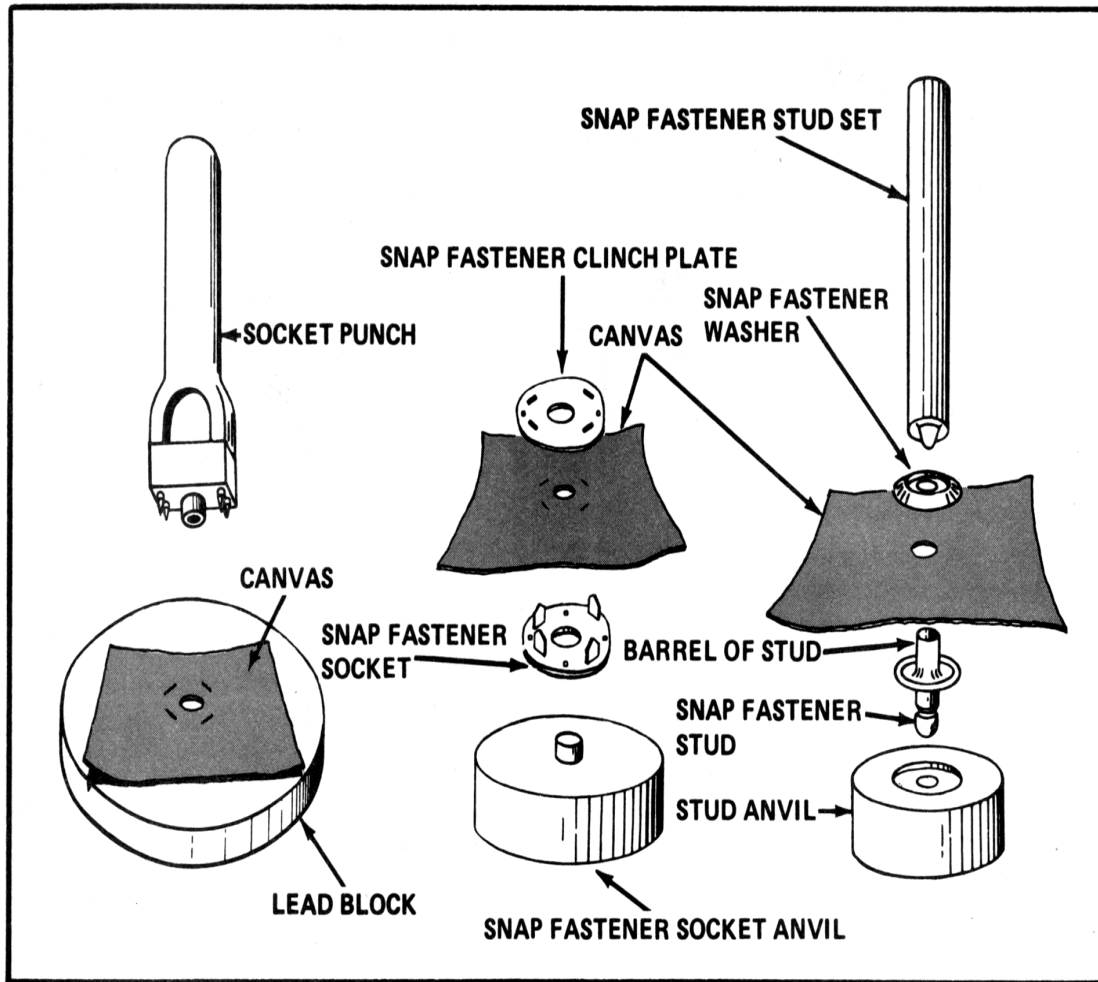

Figure 12-9. Replacing a type 1 snap fastener
a. **Style 1 Snap Fastener.** A style 1 snap fastener has two sections, a female half and a male half. The female half has two parts, a socket and a clinch plate. The male half also has two parts, a stud and a washer. The stud is available in two sizes, single and double. The double stud is twice as long as the single stud and can hold an additional layer of canvas. To install a style 1 snap fastener (Figure 12-9)--
- (1) Obtain a style 1 snap fastener, chalk, socket punch, socket anvil, hole punch, stud set, stud anvil, rawhide mallet, and lead block.
- (2) Remove the old snap fastener, and patch or replace the canvas if necessary.
- (3) Mark with chalk the exact position of the hole for the female half of the snap fastener.
- (4) Place the canvas over the lead block so that the chalk mark is centered on the block.
- (5) Center the socket punch over the chalk mark.
- (6) Hit the socket punch with a rawhide mallet to make slots for the socket prongs and a center hole.
- (7) Insert the socket prongs into the slits through the underside of the canvas.
(8) Place the clinch plate over the socket prongs.
(9) Place the canvas and socket, prongs up, on the socket anvil.
(10) Bend the socket prongs toward the center with the top of the socket punch until the prongs are flat against the clinch plate and the plate and socket are securely clinched to the canvas.